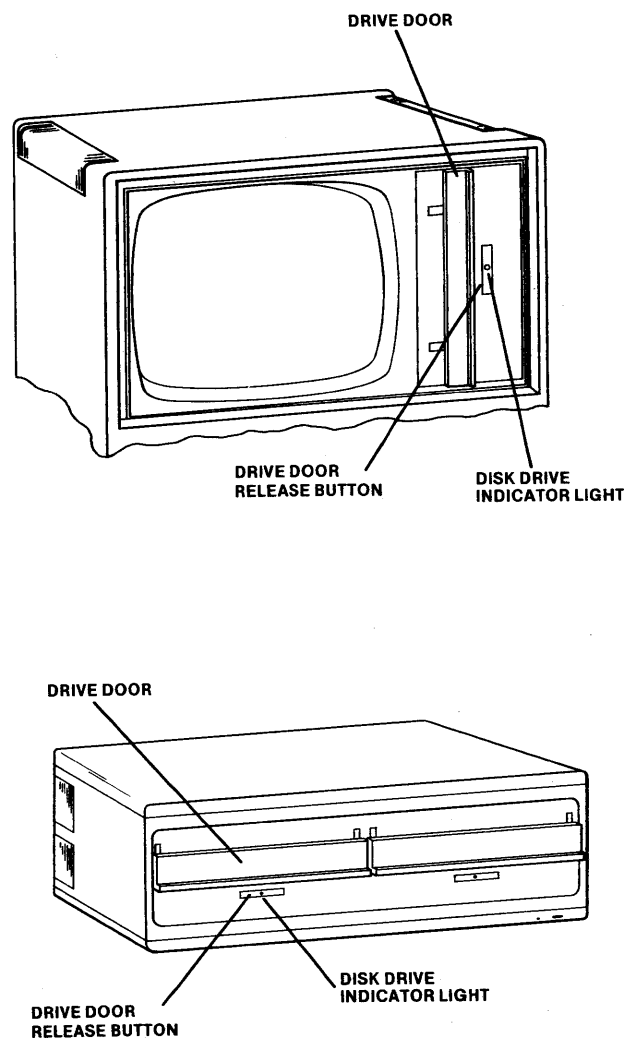

Figure 2-3. Drive Door Release Button
2. Check that the indicator light on the drive door release button is off (see figure 2-3).